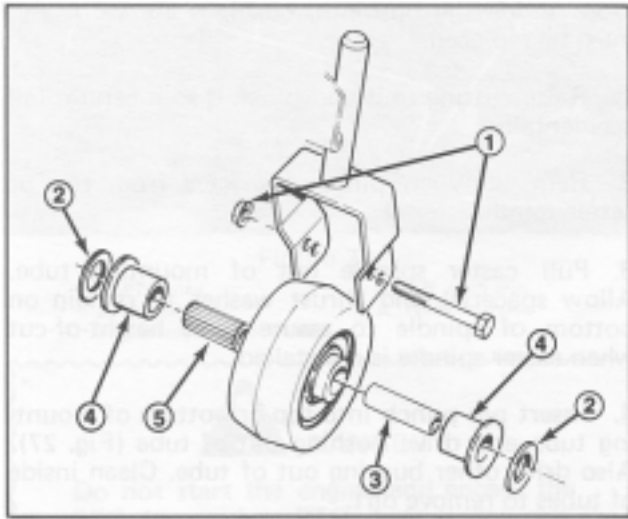

Figure 30
1. Remove the capscrew and locknut holding the castor wheel and 2 washers between the castor fork (Fig. 30).
2. Pull the spanner bushing out of the wheel hub (Fig. 30).
3. Remove the bushing from the wheel hub and allow the bearing to fall out (Fig. 30). Remove the bushing from the opposite side of the wheel hub.